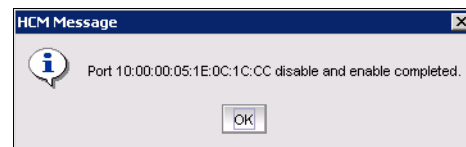

Figure 10-16 Disable and enable of HBA port after speed change
5. If the port can be disabled and enabled, click **Yes** and it will complete the Speed change and indicate the completion state (Figure 10-16).